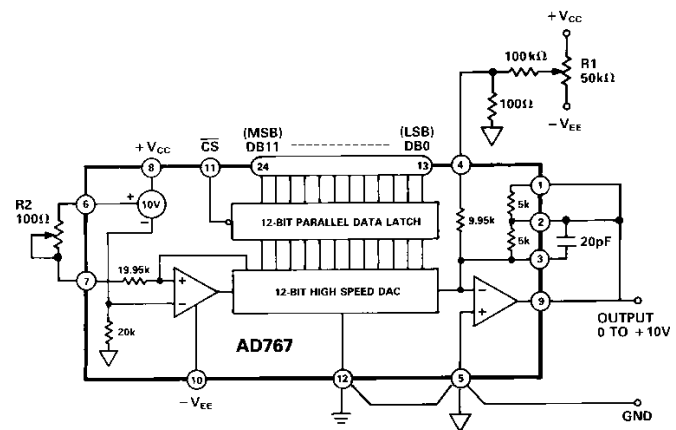

Figure 2. 0 to  $+10 \text{ V}$  Unipolar Voltage Output
**GAIN ERROR:** DAC gain error is a measure of the difference between an ideal DAC and the actual device's output span. All grades of the AD767 have a maximum gain error of 0.2% FS. However, if this is not sufficient, the error can easily be adjusted to zero (see Figures 2 and 3).
## UNIPOLAR CONFIGURATION (Figure 2)